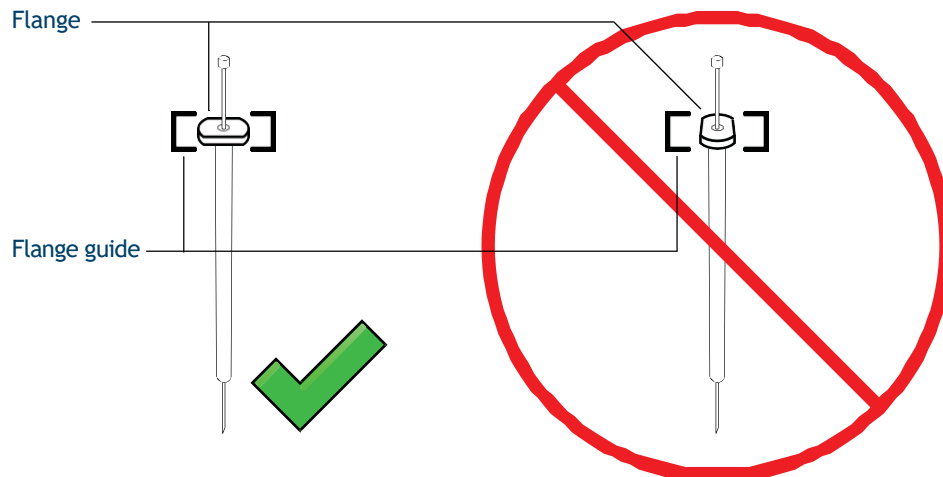

Figure 49. Syringe flange orientation
- 7 Align the syringe flange with the flange guide and press the syringe into place, keeping the needle end in the guide hole of the needle support foot. Make sure that the flat edge of the syringe flange faces out (Figure 49).